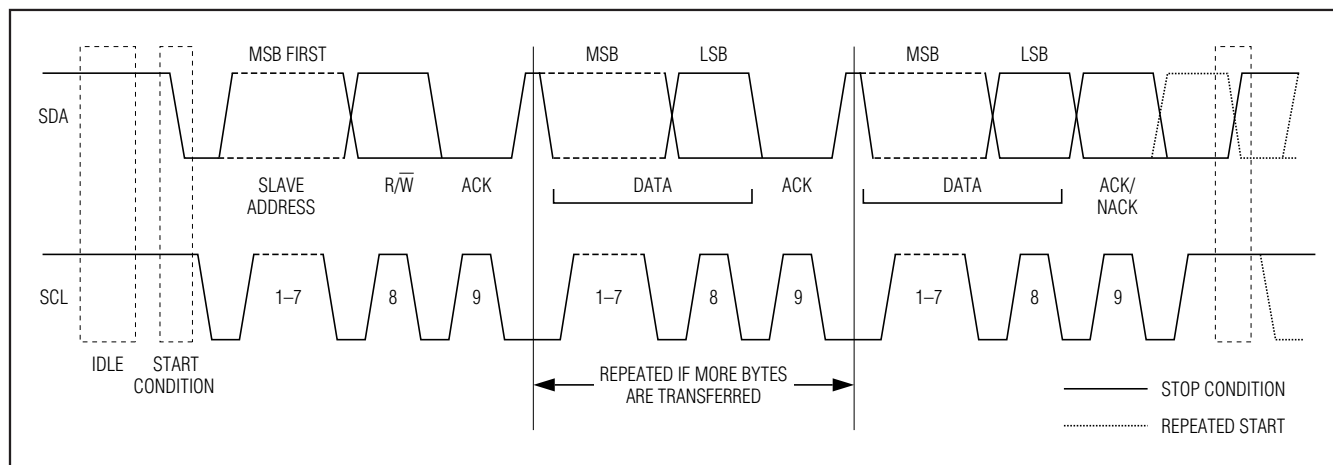
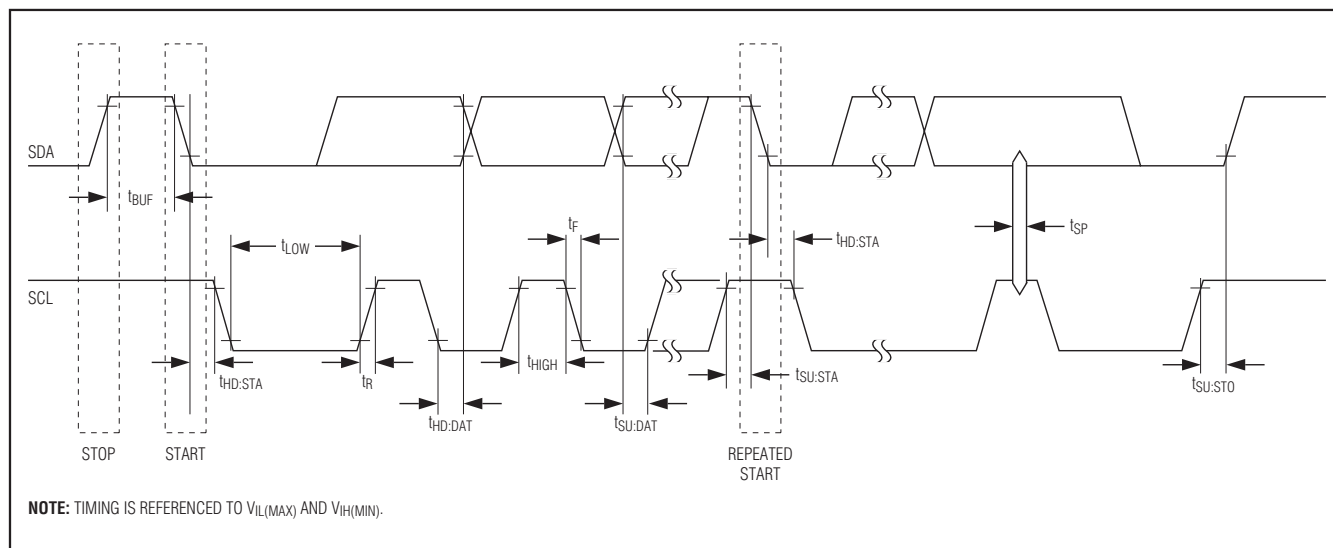

Figure 2. I2C/SMBus Protocol Overview
Figure 3. I2C/SMBus Timing Diagram
**Note 10:** See Figure 3.
Data transfers can be initiated only when the bus is not busy. The master generates the SCL, controls the bus access, generates the START and STOP conditions, and determines the number of bytes transferred on the SDA line between START and STOP. Data is transferred in bytes with the most significant bit being transmitted first. After each byte, an acknowledge bit follows to allow synchronization between master and slave. During any data transfer, SDA must remain stable whenever the clock line is high. Changes in the SDA line while SCL is high are interpreted as a START or a STOP. The protocol is illustrated in Figure 2. See Figure 3 for detailed timing references.
With the exception of the START and STOP condition, transitions of SDA can occur only during the low state of SCL. The data on SDA must remain valid and unchanged during the entire high pulse of SCL plus the required setup and hold time ( $t_{HD:DAT}$  after the falling edge of SCL and  $t_{SU:DAT}$  before the rising edge of SCL; see Figure 3). There is one clock pulse per bit of data. Data is shifted into the receiving device during the rising edge of the SCL pulse.
When finished with writing, the master must release the SDA line for a sufficient amount of setup time (minimum  $t_{SU:DAT} + t_R$  in Figure 3) before the next rising edge of SCL to start reading. The slave shifts out each data bit on SDA at the falling edge of the previous SCL pulse and the data bit is valid at the rising edge of the current SCL pulse. The master generates all SCL clock pulses, including those needed to read from a slave.